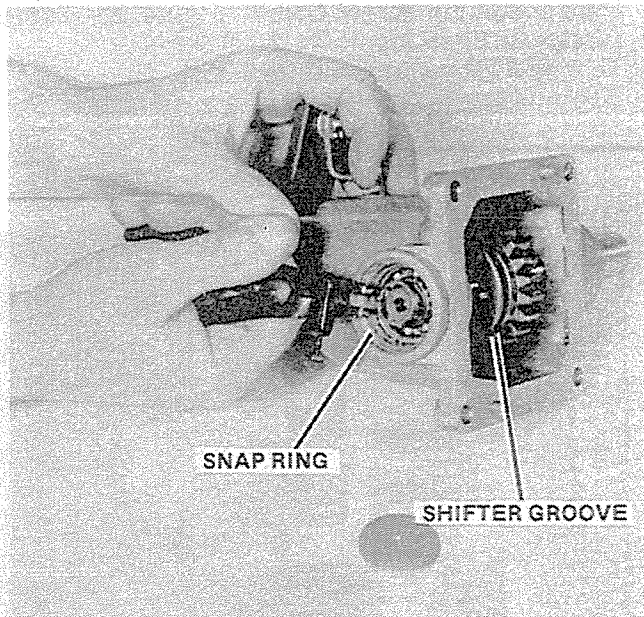

FIGURE 20
2. Remove snap ring from PTO shaft. See Figure 20.
3. Shifter groove of PTO gear should face front of case. See Figure 20.
Use Permatex No. 3 on threads of the upper front mounting screw ONLY. Figure 20. Torque screws to 10-15 lbs.-ft. (1.2-1.6 N:m).